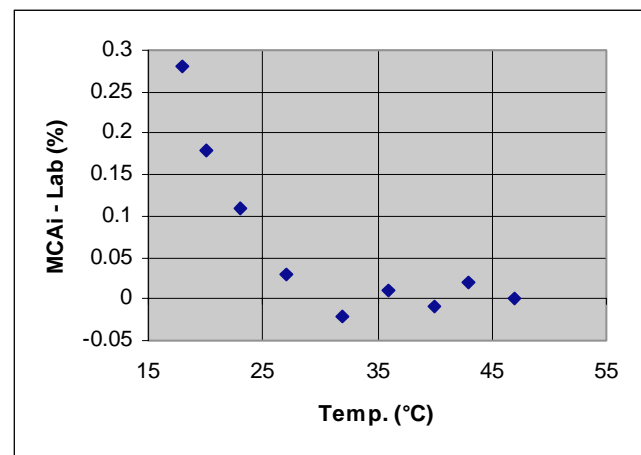

Fig. 12.16. Effect of temperature on the consistency error.
The normal process temperature is 40...50°C (104...122°F) but drops temporarily to 20°C (68°F) when the process is started up. The graph (MCAi – Lab Cs vs. Temperature) shown in Fig. 12.16 was drawn by using laboratory samples taken while the process was being started.
1. Select `DIAGNOSTICS/TEMP.COMP` (Fig. 12.16).